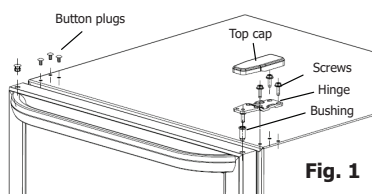
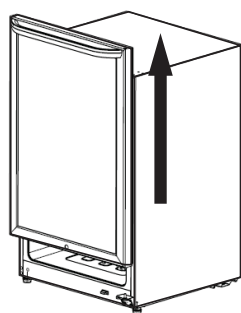

Fig. 1
Fig. 2
1. Remove top cap. Remove the three screws that hold the upper hinge (right side) to the top of the cabinet. See Fig. 1.
2. Carefully remove top hinge (See Fig. 1.), then lift the door up off of bottom hinge and place it on a padded surface to prevent scratching it. See Fig. 2.
3. Remove the three button plugs from the upper left corner of the cabinet and transfer them to the holes on the opposite side. Be sure to press the button plugs firmly into the holes. See Fig. 1.